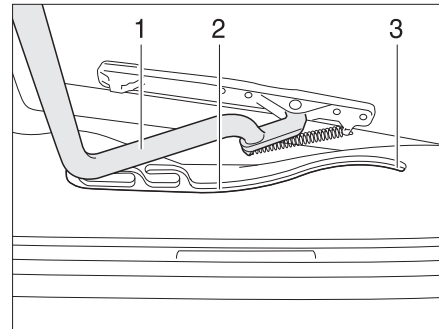

Fig. 44 Heki skylight, guide
- Pull the bar (Fig. 44,1) in the guides (Fig. 44,2) to the rearmost position (Fig. 44,3).
- Use both hands to push the bar (Fig. 44,1) slightly upwards.
- Pull the bar in the guides (Fig. 44,2) to the desired position.